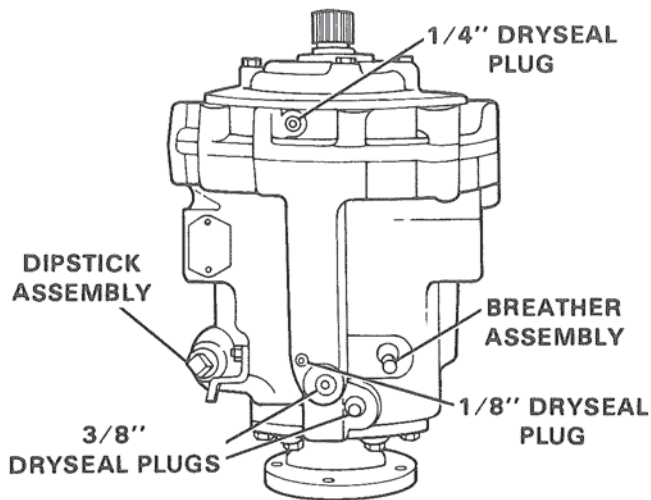

Figure 94. Placement of Miscellaneous Pipe Plugs.
3. Install 3/8-18 and 1/8-27 dryseal plugs and tighten securely. Figure 94.